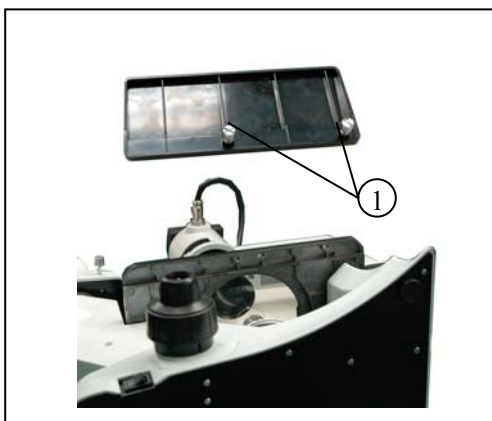

Figure 8
**2-2-5 Installing the stage lengthen splint and the mechanical ruler (fig. 8)**